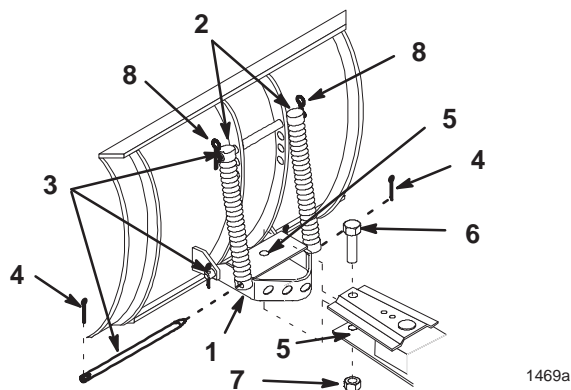

Figure 1
1. Attach channel assembly and blade trip springs to blade with rods and hairpin cotters and cotter pins (Fig. 1).
2. Apply liberal amount of general purpose grease to pivot area of frame and channel (Fig. 1) and attach with 3/4 x 3/4" bolt and 3/4" nut.